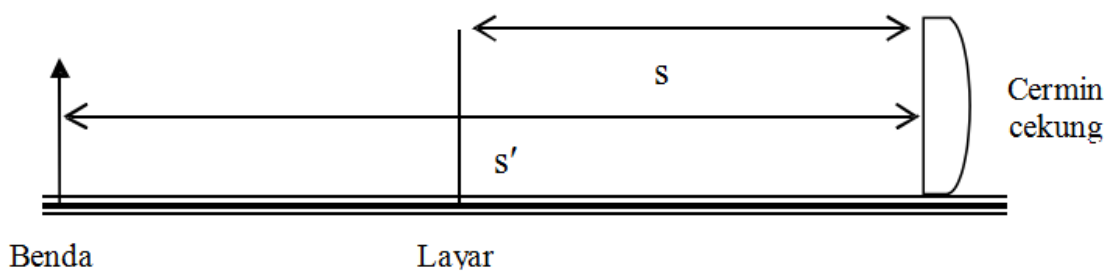

Figure 3. Experimental scheme of image formation on a concave mirror
1. Design the equipment as shown in figure 3.